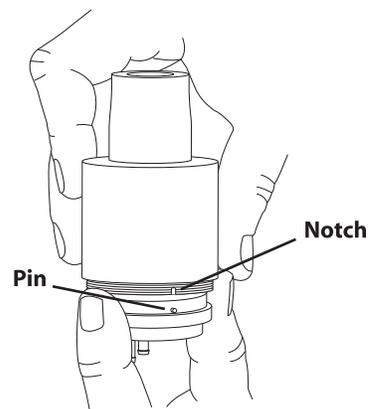

Figure 2-3
- 2 Hold exhalation valve body upside down and seat the valve cap with diaphragm and poppet assembly securely into valve body. **Make sure the pin on the valve cap lines up with the slot on the valve body when you bring them together (see Figure 2-3).**